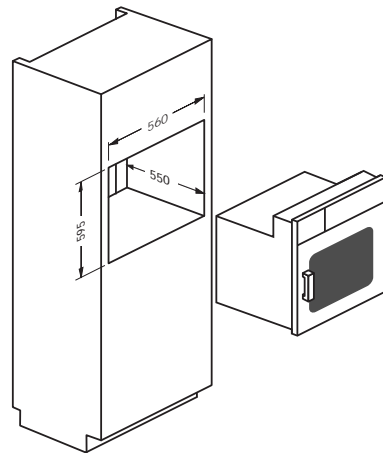

Fig. 7
**Solo oven 990/992** (see Figure 7)